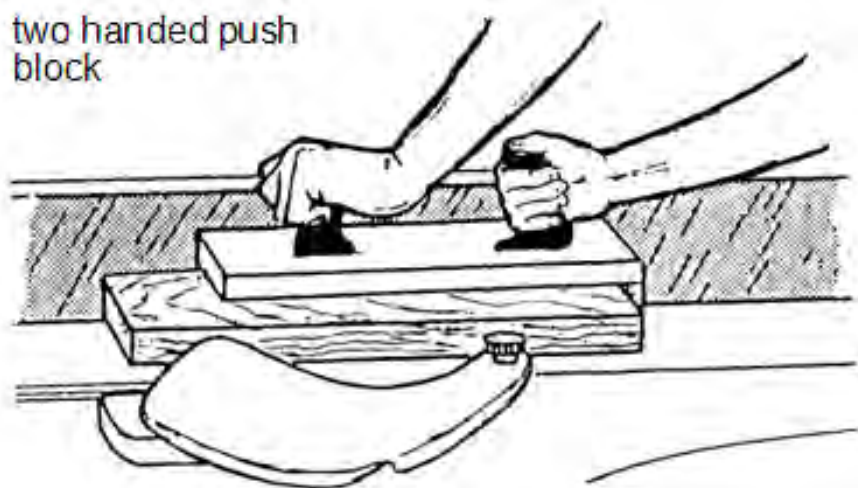
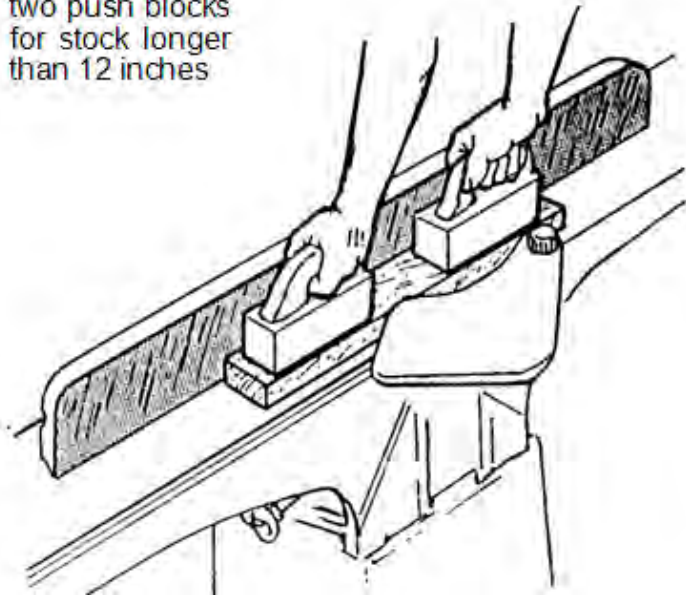
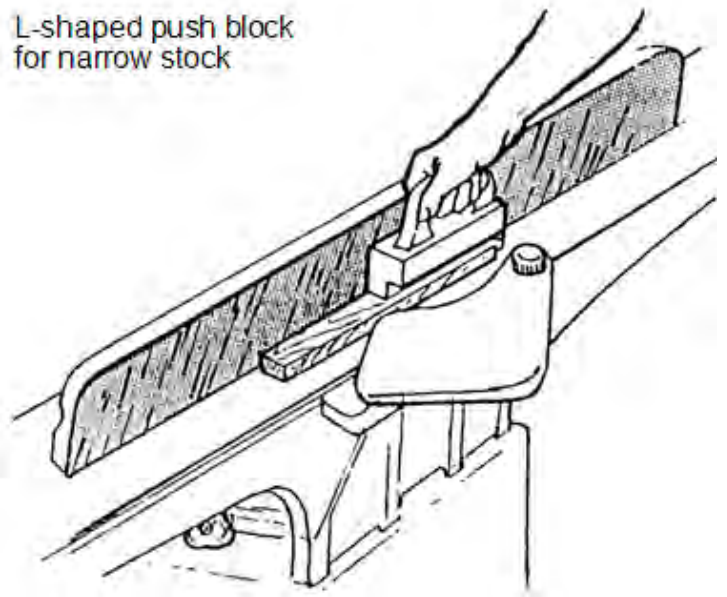
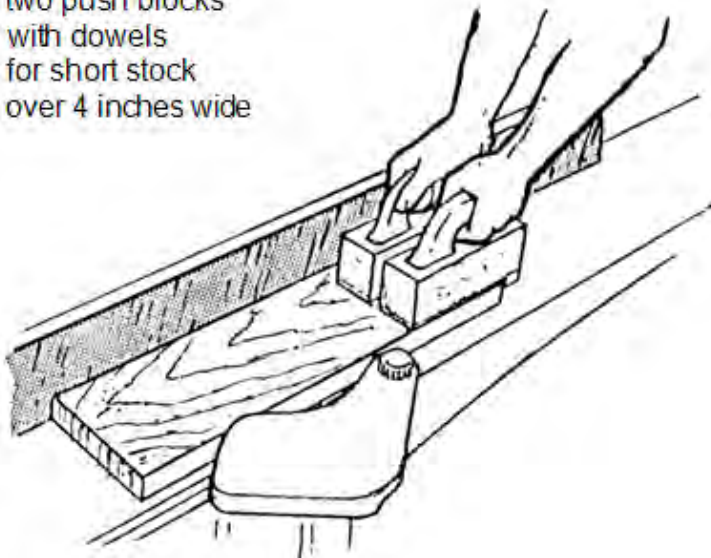

Fig 11
Fig 12
Fig 13
Fig 14
Never surface pieces shorter than 12 inches or thinner than 3/8 inch without the use of a special work holding fixture. Never surface pieces thinner than 3 inches without the use of a push block. On stock 8" to 12" long use a single two-handed push block (Fig. 11). On stock longer than 12 inches use two push blocks (Fig. 12). With narrow stock use the type push block shown in Fig. 13. When surfacing short stock over 4 inches wide, use two (2) push blocks to guide material over cutterhead (Fig. 14).